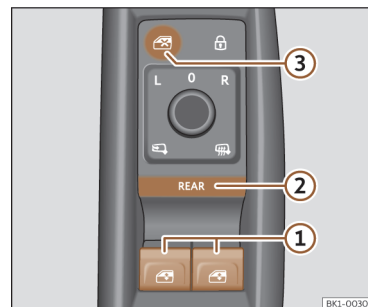

Fig. 75 Detail of the driver door: controls for the windows.
- ① Electric window operation buttons.
- ② **REAR** Button for activating the electric window operation and comfort opening and closing.
- ③ Button to deactivate the electric window operation buttons on the rear doors.
By default, the electric windows on the front doors can be operated with the buttons  >>> **Fig. 75 ①**.
REAR Briefly press button >>> **Fig. 75 ②** to activate the operation of the **rear** door electric windows. When the operation of the rear door electric windows is activated, the button's light is on.
Press the button >>> **Fig. 75 ③** to deactivate the electric window buttons located on the rear doors. When these buttons are deactivated the button light turns out.